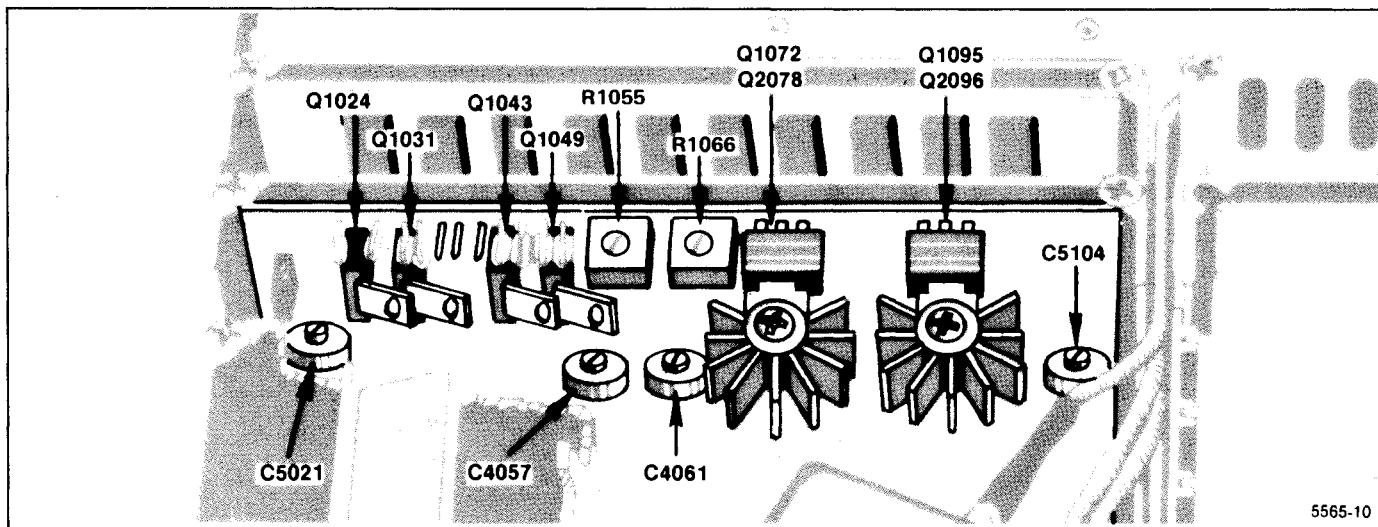

Figure 5-6. Deflection Amplifier test points and adjustments.
- k. Monitor the collectors of Q1031 and Q1024, on the Deflection Amplifier board, with test oscilloscope. See Figure 5-6 for the locations of Q1031 and Q1024.
- n. Adjust C4057 (Figure 5-6) for the best response.